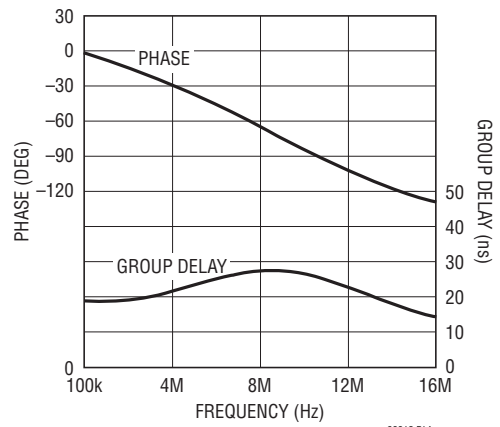

Figure 14. Modified Filter Configuration Using a Resistor Between Summing Nodes ($f_{-3\text{dB}} = 13\text{MHz}$)
Figures 14 to 17 show additional circuits highlighting the use of R4 or C3 in the modified second order circuit to set the $f_{3\text{dB}}$ frequency to 13MHz, 19MHz, 22.7MHz and 24.6MHz respectively.
4. Calculate the required external resistor R_{EXT} value for the R4 value in step 3. Example, in Figure 14 the Q value for $f_{3\text{dB}} = 5\text{MHz}$ is 0.54, the required R4 resistor is 350Ω , the R4A and R4B resistors are the internal 100Ω and the R_{EXT} resistor is 150Ω [$R_{\text{EXT}} = R4 - (R4A + R4B)$].